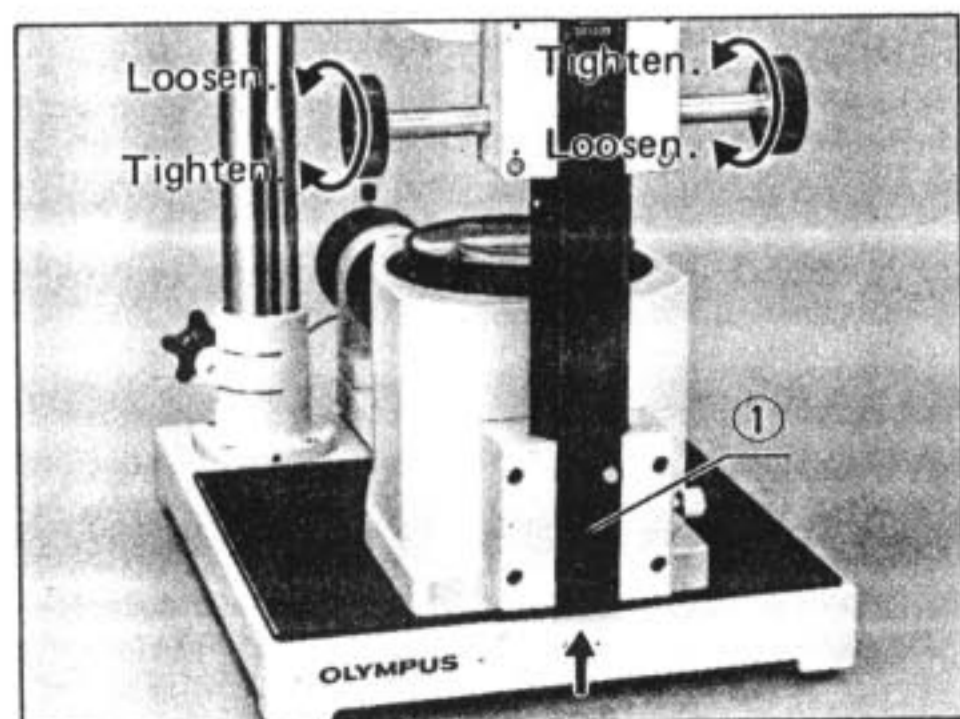

Fig. 18
To adjust the tension, grasp the left-hand focus knob in one hand, and rotate the right-hand focus knob clockwise by the other hand, to tighten the focus knobs, or counterclockwise to loosen the knobs. Do not loosen the knobs too much; otherwise the knobs will slip. (Fig. 18)
★ As the 80 mm macro lens has a longer working distance, it is necessary to raise the stage dovetail ① to a higher position as shown in Fig. 18 for magnifications over 0.9X. (Fig. 18)